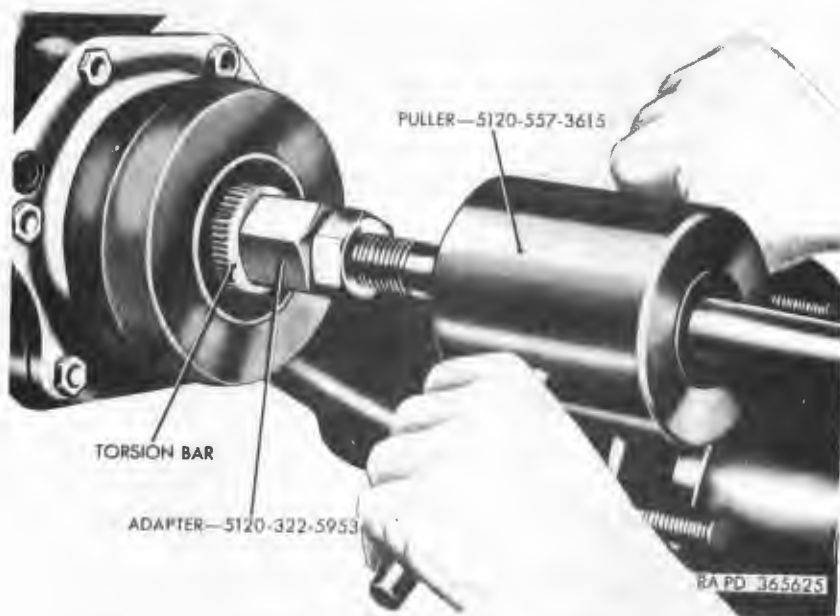

Figure 218. Removing torsion bar.
- (e) Pull torsion bar from installed position using puller 5120-557-3615 and adapter 5120-322-5953 (fig. 218).
- (2) *Torsion bar anchor.* Remove torsion bar anchor (E-11) by removing four hex-head bolts (E-16) and lockwashers (E-14) from the outer rim of anchor retainer (E-13). Remove two drain plugs (E-15) and lockwashers (E-14) from two tapped blind holes in anchor retainer (E-13). Screw two of the bolts (E-16) into the blind holes and, using bolts as pullers, remove retainer, torsion bar anchor, and retainer gasket (E-12) from arm supports (E-9). Discard gasket. Remove two hex-head bolts (E-16) and lockwashers (E-14) securing torsion